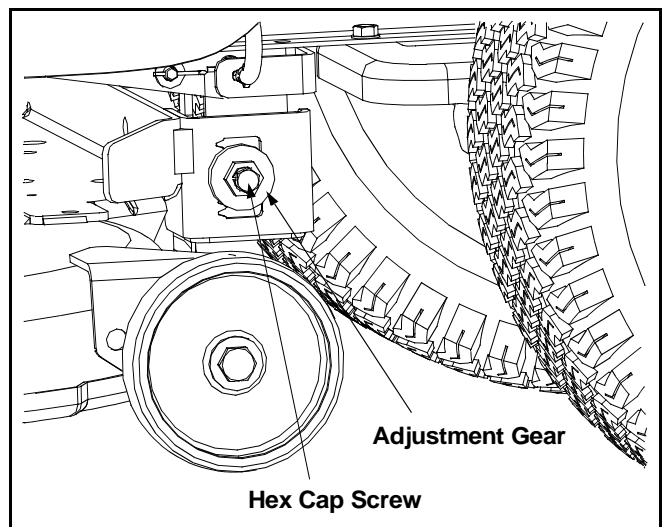

Figure 13
- Loosen, but do NOT remove, the hex cap screw on the left deck hanger bracket. See Figure 13